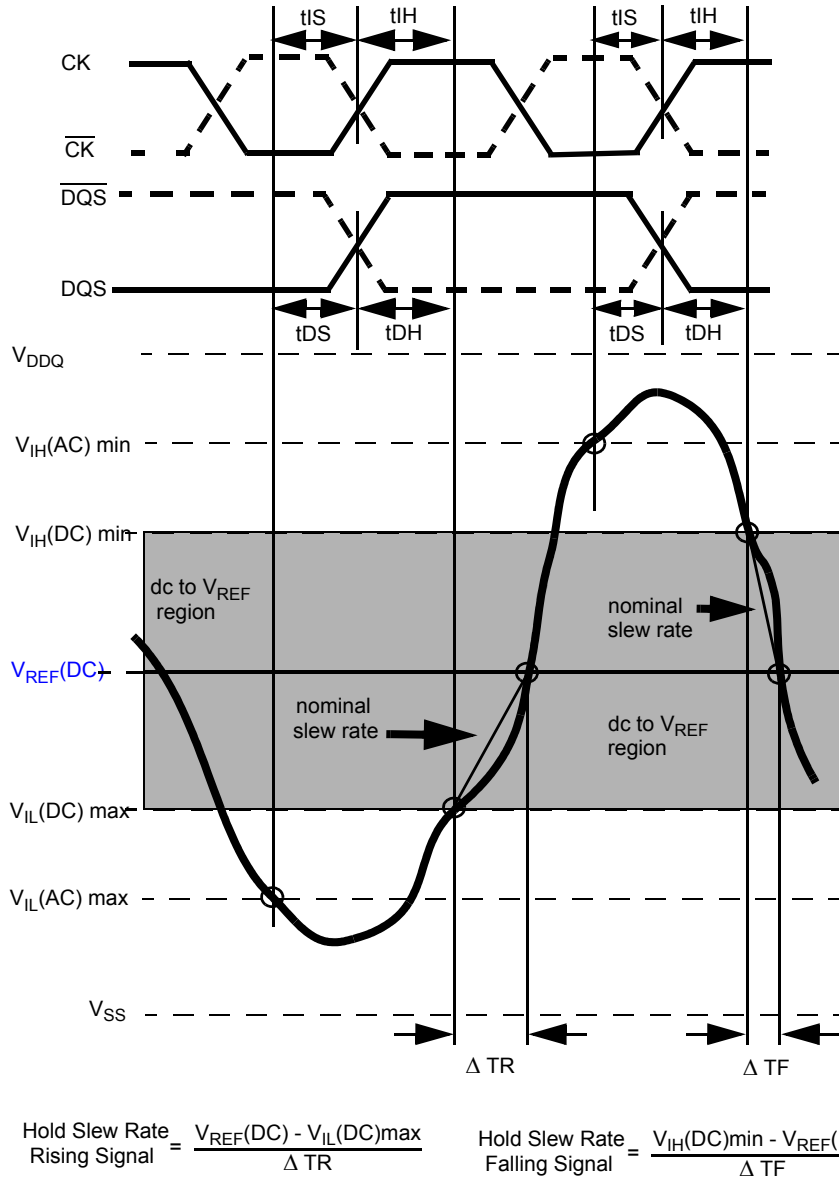
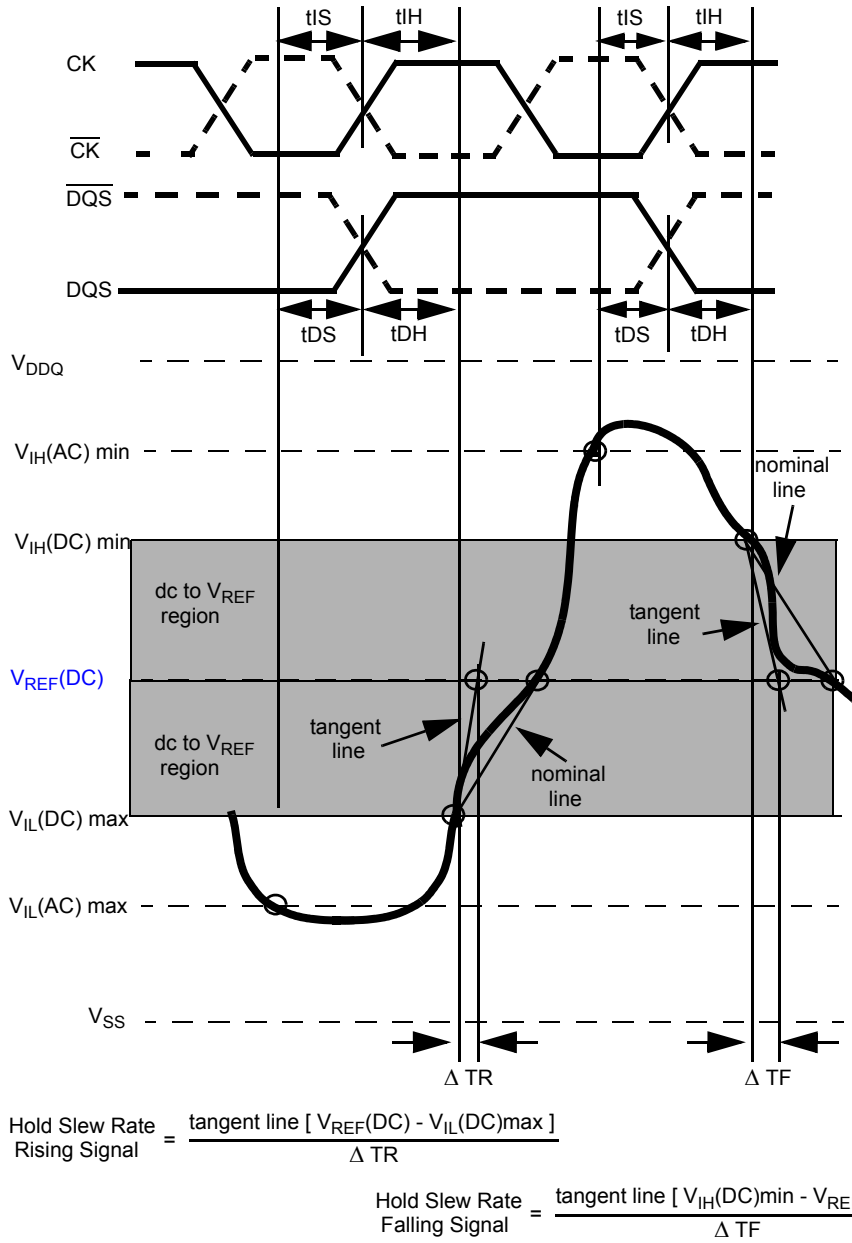

Figure 21. Illustration of nominal slew rate for hold time t_{DH} (for DQ with respect to strobe) and t_{IH} (for ADD/CMD with respect to clock).
Figure 23. Illustration of tangent line for hold time t_{DH} (for DQ with respect to strobe) and t_{IH} (for ADD/CMD with respect to clock)
Hold (tIH) nominal slew rate for a rising signal is defined as the slew rate between the last crossing of V_{IL}(DC)max and the first crossing of V_{REF}(DC). Hold (tIH) nominal slew rate for a falling signal is defined as the slew rate between the last crossing of V_{IH}(DC)min and the first crossing of V_{REF}(DC). If the actual signal is always later than the nominal slew rate line between shaded 'dc to V_{REF}(DC) region', use nominal slew rate for derating value (see Figure 21). If the actual signal is earlier than the nominal slew rate line anywhere between shaded 'dc to V_{REF}(DC) region', the slew rate of a tangent line to the actual signal from the dc level to V_{REF}(DC) level is used for derating value (see Figure 23).